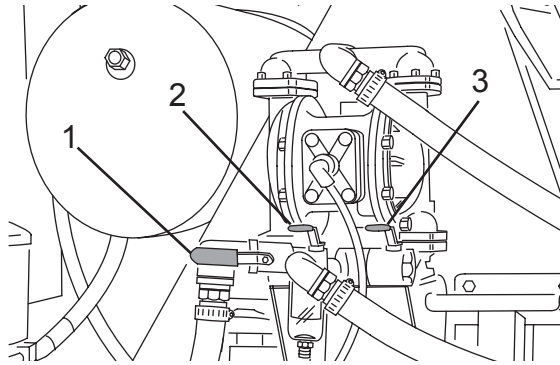

Figure 90
2. Open the main tank ball valve (Figure 90, Item 2) and chemical tank ball valve (Figure 90, Item 1) (if equipped).